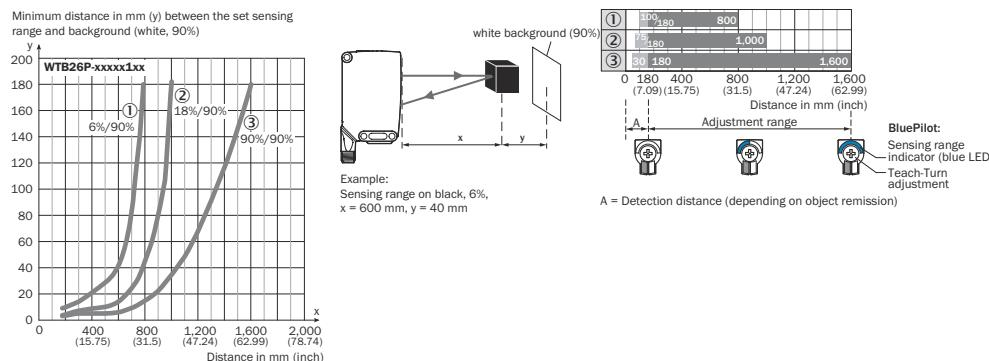

Figure 4: Characteristic line 1, WTB26P-xxxxx1xx, red light
The minimum distance (=  $y$ ) for the background suppression can be determined from the diagram [figure 4 ①] as follows: